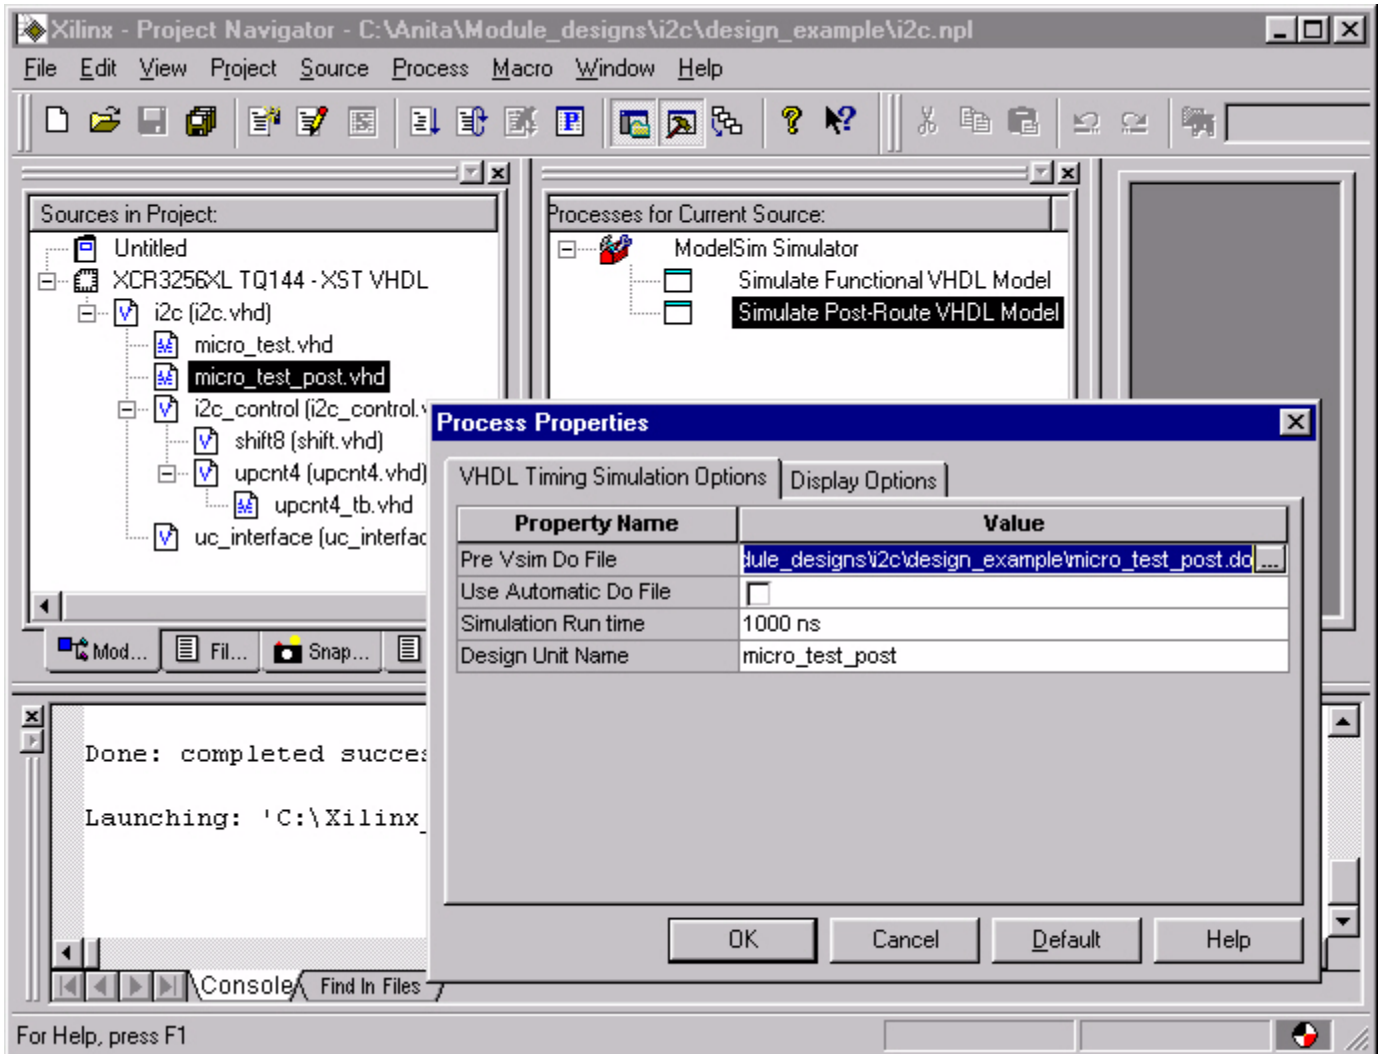

Figure 30: Specifying the Post-Route DO File and Testbench Entity Name
*micro\_test\_post*, therefore, *micro\_test\_post* is entered as the *Design Unit Name* as shown in Figure 30.